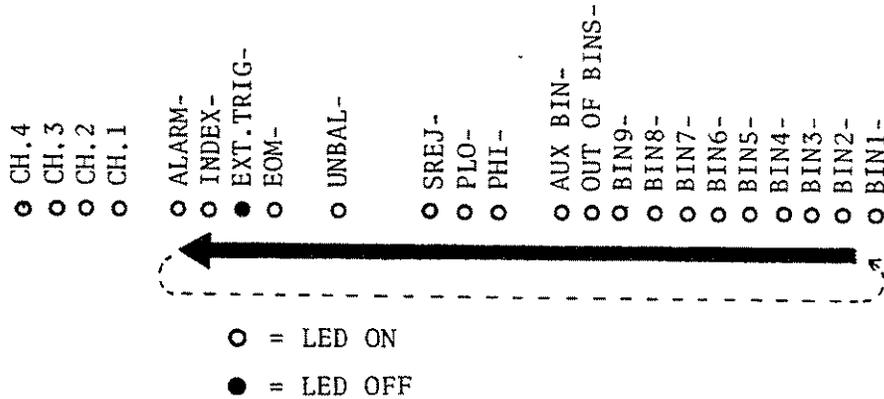

Figure 10-16. Handler Interface Function Check
4. Set the jumpers on the handler interface board the same settings as when the board is shipped from the factory referring to Figure 10-16.